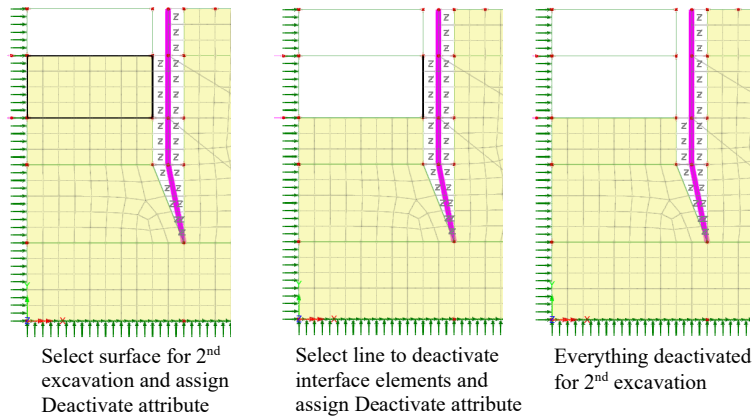

Figure 51: 2nd excavation
- Now select the line of the surface next to wall and assign the deactivation attribute **2nd excavation** to deactivate the interface elements (figure 51).